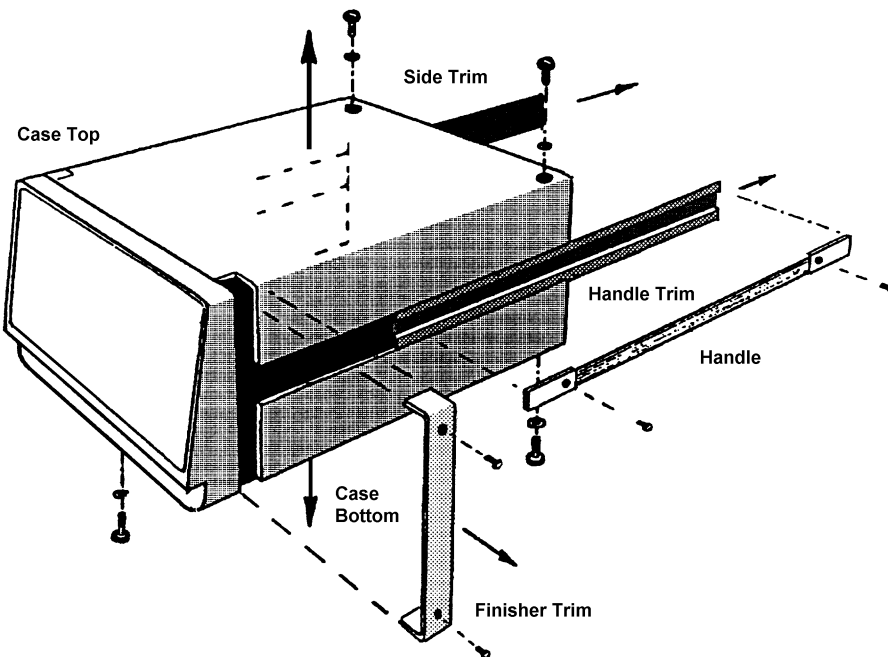

Figure 2.10 - Removal of trims, handle, and top and bottom cases
1. As shown in Figure 2.10, remove the following items from the unit: